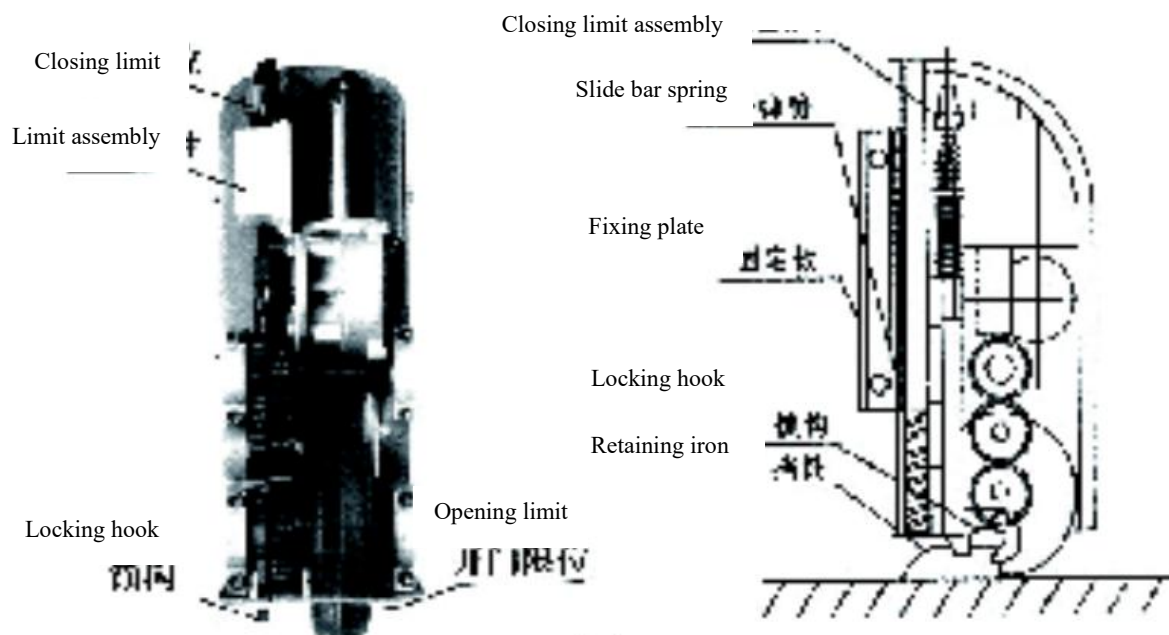

Figure 1
2.4.1 The structure of the door operator is shown in Figure 1: